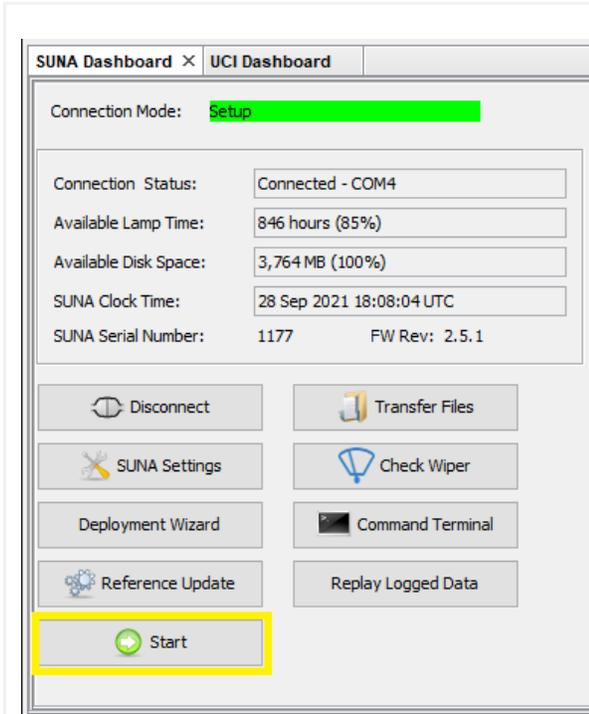

Figure 37. Press Start on the SUNA Dashboard
**STEP 1** | Press the “Start” button in the **SUNA Dashboard** to begin a real-time SUNA nitrate measurement (**Figure 37**).